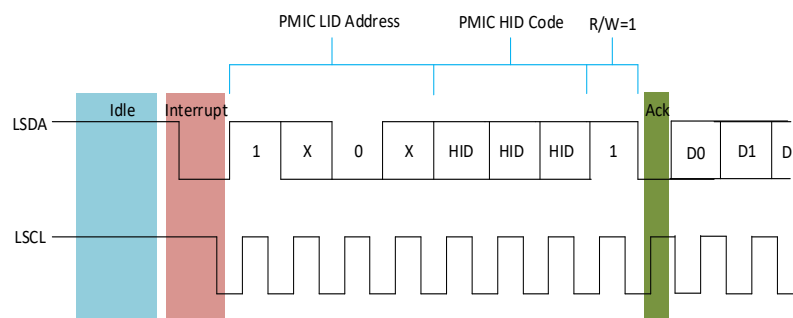

Figure 25 — PMIC Requests Interrupt, Host Ack followed by PMIC Device IBI Payload
- The Host sends ACK on 9th bit to accept the interrupt request. At this point, if the PMIC device confirms that it has won the arbitration, the PMIC device transmits the IBI payload as shown in Table 43 and Table 44 for PEC disabled and PEC enabled configuration respectively. See Figure 25. Figure 25 just shows only first two data bits of the MDB byte to illustrate the timing. The interrupt payload contains MDB followed by Table 94, “Register 0x08”, Table 95, “Register 0x09”, Table 96, “Register 0x0A”, Table 97, “Register 0x0B” & Table 137, “Register 0x33” bytes. The host then issues the STOP command. Note the timing waveform in Figure 25. The host then accepts the IBI payload if it sends an ACK on 9th bit to accept the interrupt request. The host can interrupt the IBI payload at T bit. If host stops the IBI payload at T bit in the middle of payload, the PMIC retains the IBI status flag (Table 96, “Register 0x0A” [1]) and Pending Interrupt Bits [3:0] internally and waits for the next opportunity to request an interrupt. If the PMIC device successfully transmits the entire IBI payload, it then clears IBI status flag (Table 96, “Register 0x0A” [1] = ‘0’) and Pending Interrupt Bits [3:0] = ‘0000’ on its own and does not request for an IBI again unless there is another different event occurs; for another same event, the device does not request for an IBI.